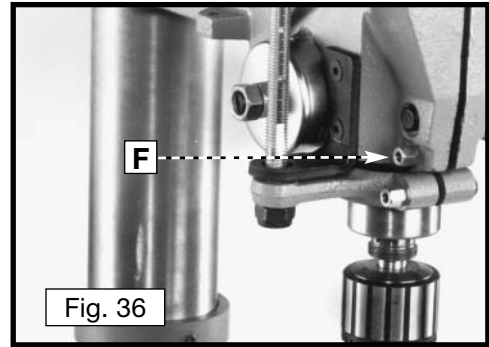

Fig. 36
The sliding fit of the quill was adjusted at the factory. After a long period of time, “play” between the quill and head casting may develop. To re-adjust, loosen the nut (F) Fig. 36 and tighten the screw (E) Fig. 35 with the supplied hex wrench. After adjustment, hold the screw (E) Fig. 36, and tighten the nut (F) Fig. 36. Check the sliding fit by moving the quill up and down several times to be sure the quill does not bind.